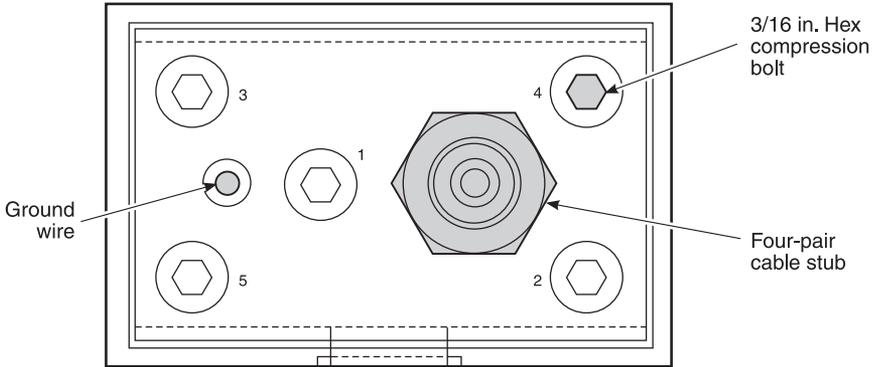

Figure 6. End Cap Compression Bolts
- 5 Torque the five compression bolts in the proper sequence shown in Figure 6 and Table 3 on page 12).